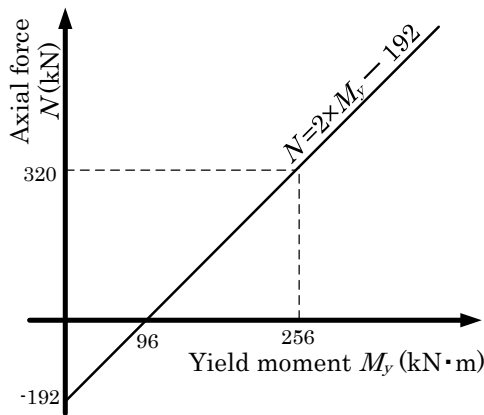
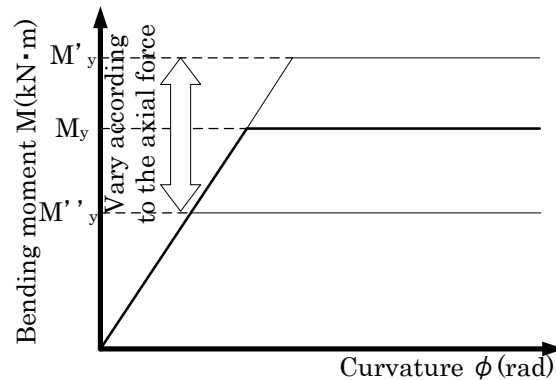

Figure 4
Figure 5
2) The yield moment of the column, M_y ($\text{kN} \cdot \text{m}$), and the axial force of the column, N (kN), have a relationship, as shown in Figure 4. The bending moment at both ends of the column and their curvatures have a relationship, as shown in Figure 5. The amount of the lateral force, P , reaches P_y when both ends of the columns form yield hinges at the bending moment of M_y to achieve the total collapse mechanism.